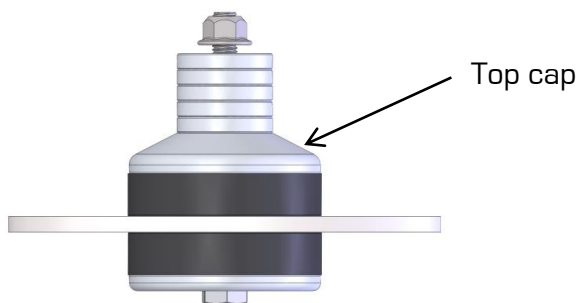

Figure 4 - Bottom spacer moved to top-1/4" higher.
**To Raise the Engine:** In order to raise the engine, the 1/4" spacer at the bottom of the mount needs to be moved to the top resulting in a 1/4" increase in height (Figure 4). Disassemble the mount by holding the top cap with a spanner wrench or other suitable tool and loosen the M10 bolt on the bottom of the mount. Remove the 1/4" spacer from the bolt and then reassemble the mount. Torque the bolt to 30 ft-lbs. Add the spacer that was removed from the bottom of the mount to the stack of spacers on the top of the mount.